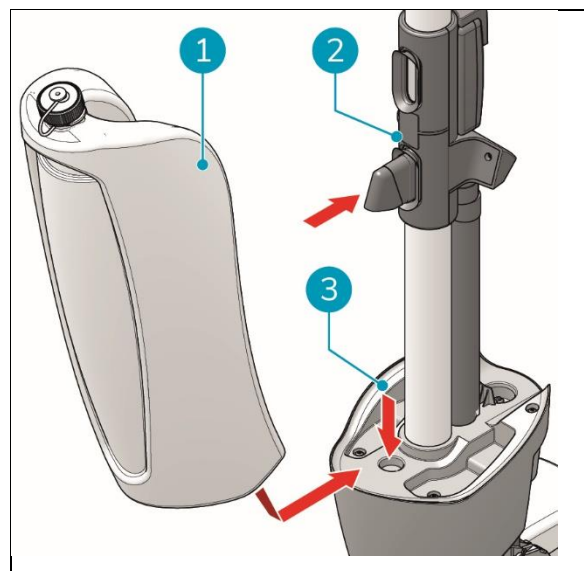

Figure 12
1. Put the bottom of the recovery tank (Figure 12, pos. 1) on the front of the i-mop® XXL Pro (Figure 12, pos. 3).
2. Push the top of the tank into place until you hear a 'click' sound, the magnet (Figure 12, pos. 2) will lock the recovery tank into place.